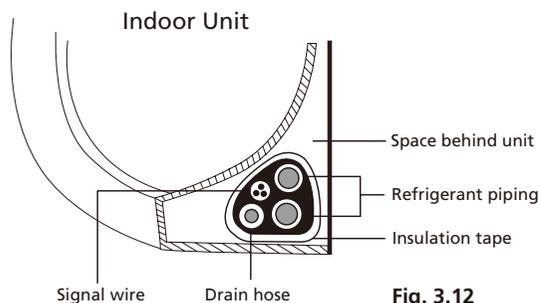

Fig. 3.12
1. Bundle the drain hose, refrigerant pipes, and signal cable according to **Fig. 3.12**.
3. Using insulation tape, wrap the signal wire, refrigerant pipes, and drain hose tightly together. Double check that all items are bundled in accordance with **Fig. 3.12**.